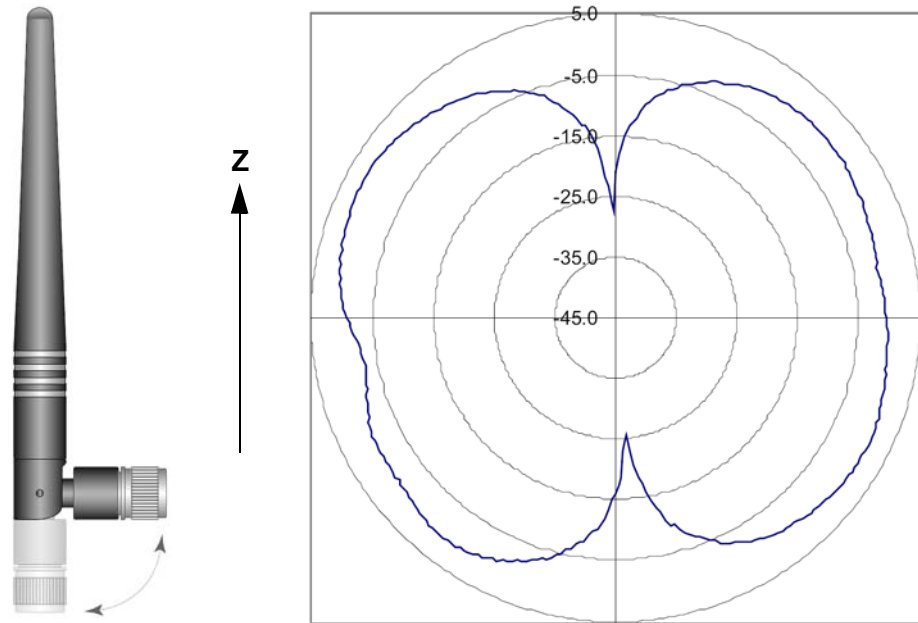

Figure 5: Half-Wave Dipole Antenna
Figure 5 below shows the radiation pattern of a half-wave dipole antenna (for the Antenna Factor ANT-2.4-CW-RCT-RP antenna, in this example). Note that the dipole radiates in a similar way to the isotropic case close to the horizontal, but has virtually no radiation at the vertical.
- **Non-engineered:** A node is installed in a changing network in which the node is required to communicate with other nodes in various directions. These directions may be known or unknown, but they may also change with time as nodes are added or moved. This scenario requires that all directions are covered by the antenna's radiation pattern and, therefore, the use of an antenna with low directivity, such as the half-wave dipole shown in Figure 5.